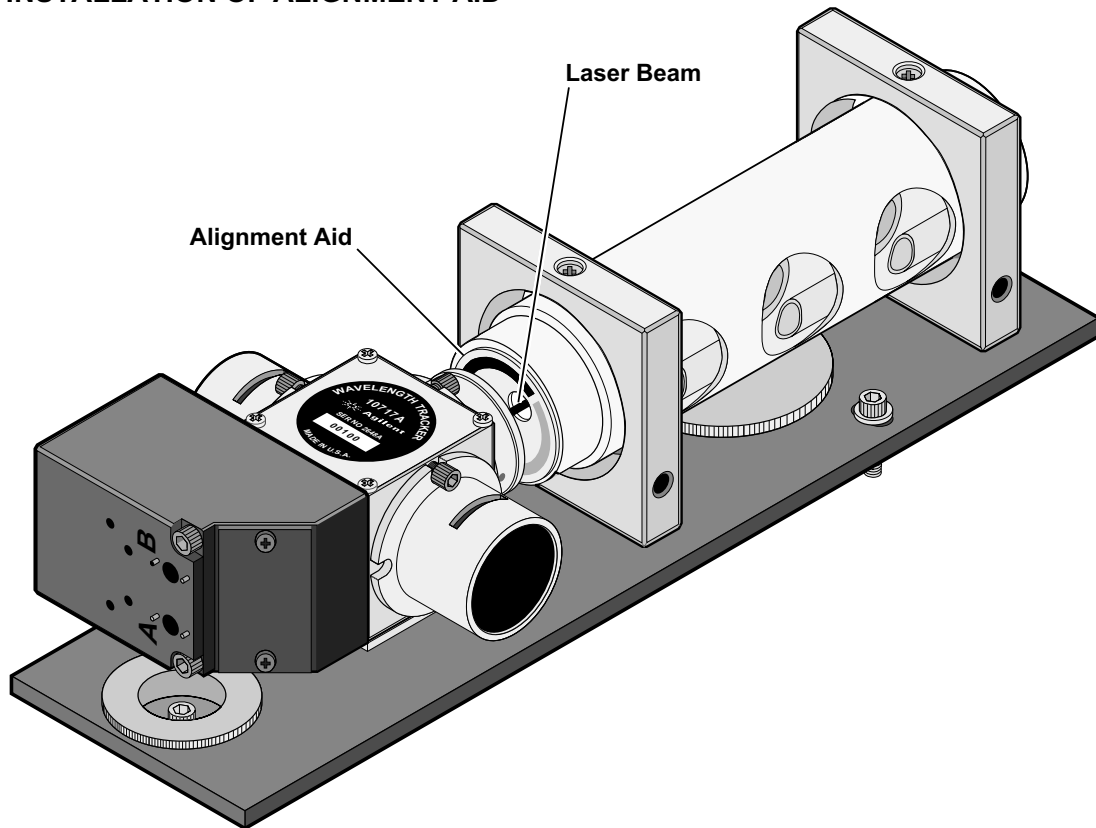

Figure 7I-6. Installation of alignment aid
- 11** Rotate the pitch adjustment screw (see Figure 7I-5) until the laser beam autoreflected back to the laser head is centered vertically about the output beam. Yaw the baseplate back and forth until the autoreflected beam is concentric with the laser head aperture.
- 12** Tighten all three mounting screws alternately (see Figure 7I-5) until finger-tight. Now tighten the screws by applying a torque of 0.9 Newton-meter (8 inch-pounds). Maintain proper autoreflection as the screws are tightened. Correct for any change by readjusting the wavelength tracker in pitch and yaw until the laser beam is autoreflected back into the laser head. This insures proper angular alignment.